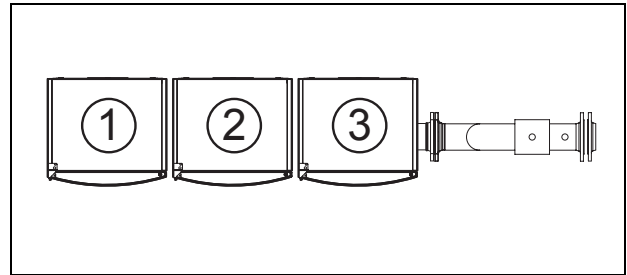
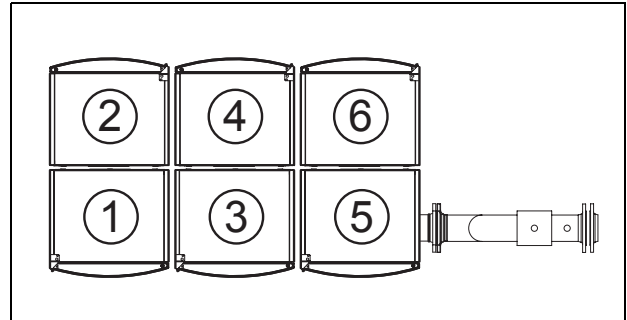

Fig. 7 Installation sequence for a TL-inline configuration
Fig. 8 Installation sequence for TR-back-to-back configuration
- Hang the first boiler on the cascade frame as shown in fig. 7 or fig. 8.
You must observe the installation sequence indicated in fig. 7 and fig. 8 when installing the boilers.